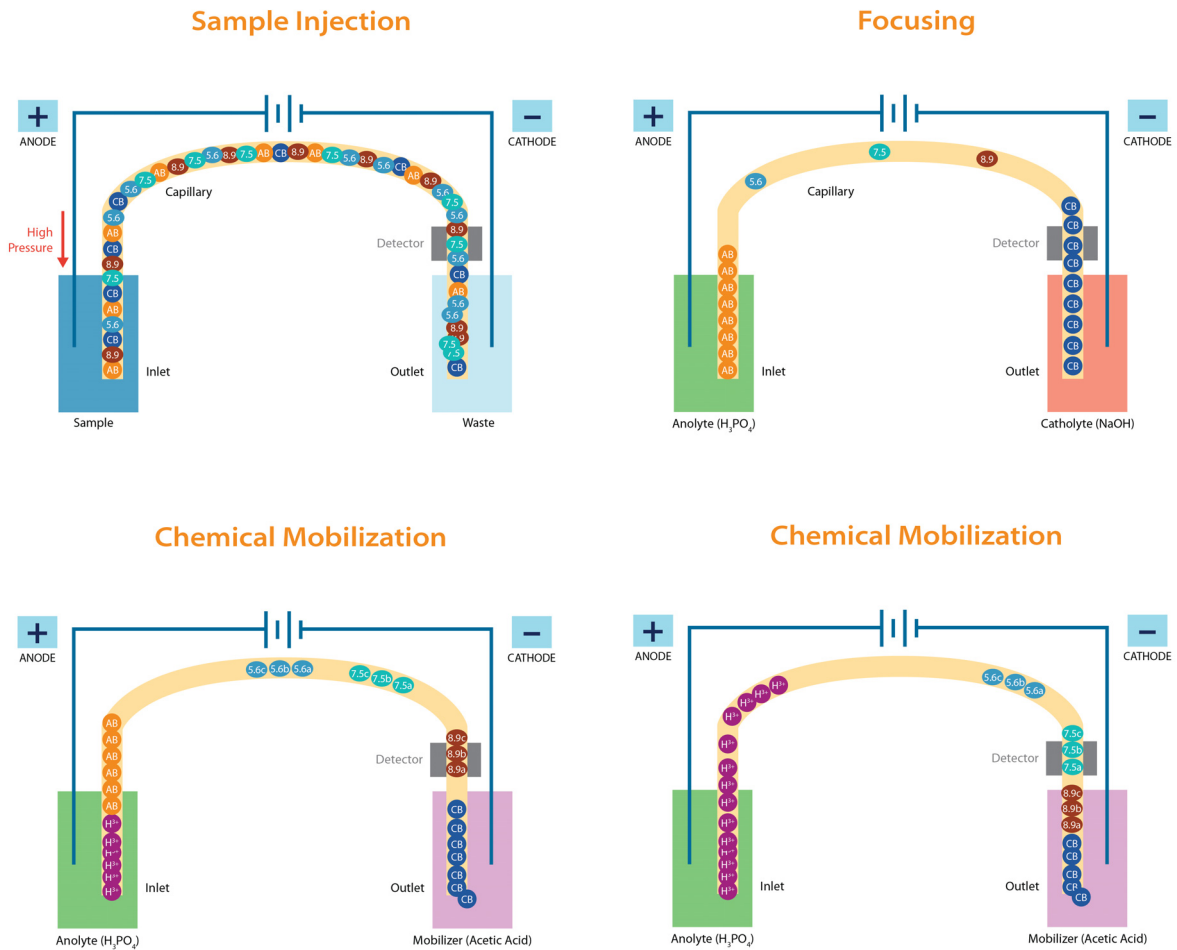

Figure 2-2: Conventional cIEF sample injection (top left), focusing (top right), and mobilization (bottom, left to right).
Despite the appeal of cIEF since it was proposed in 1985, widespread acceptance as a replacement for slab gel IEF did not occur. The main factor for the slow acceptance of cIEF was the difficulty in performing cIEF using commercial, general-purpose capillary electrophoresis (CE) instruments (now referred to as conventional cIEF). Figure 2-2 shows the steps of how a commercial CE instrument is used to run conventional cIEF.
analysis times (less than 2 samples/hour). The mobilization step utilizes pressure or chemical mobilization. Pressure mobilization compromises resolution, and chemical mobilization can change the pH gradient. Maintaining the pH gradient during chemical mobilization requires all ampholytes have the same “mobility” in the electric field. Unfortunately, basic ampholytes have different mobilities than acidic and neutral ampholytes. This results in a mixed-mode separation which is no longer just pI-based. The profile with conventional cIEF becomes more complex (as shown in Figure 2-2) and is not always reproducible. In conventional cIEF, the dynamic process of IEF within the separation column is not monitored, which makes it difficult to optimize focusing time, one of the most important parameters in cIEF. It is also impossible to find problems in the IEF process within the separation column, such as sample aggregation and precipitation.